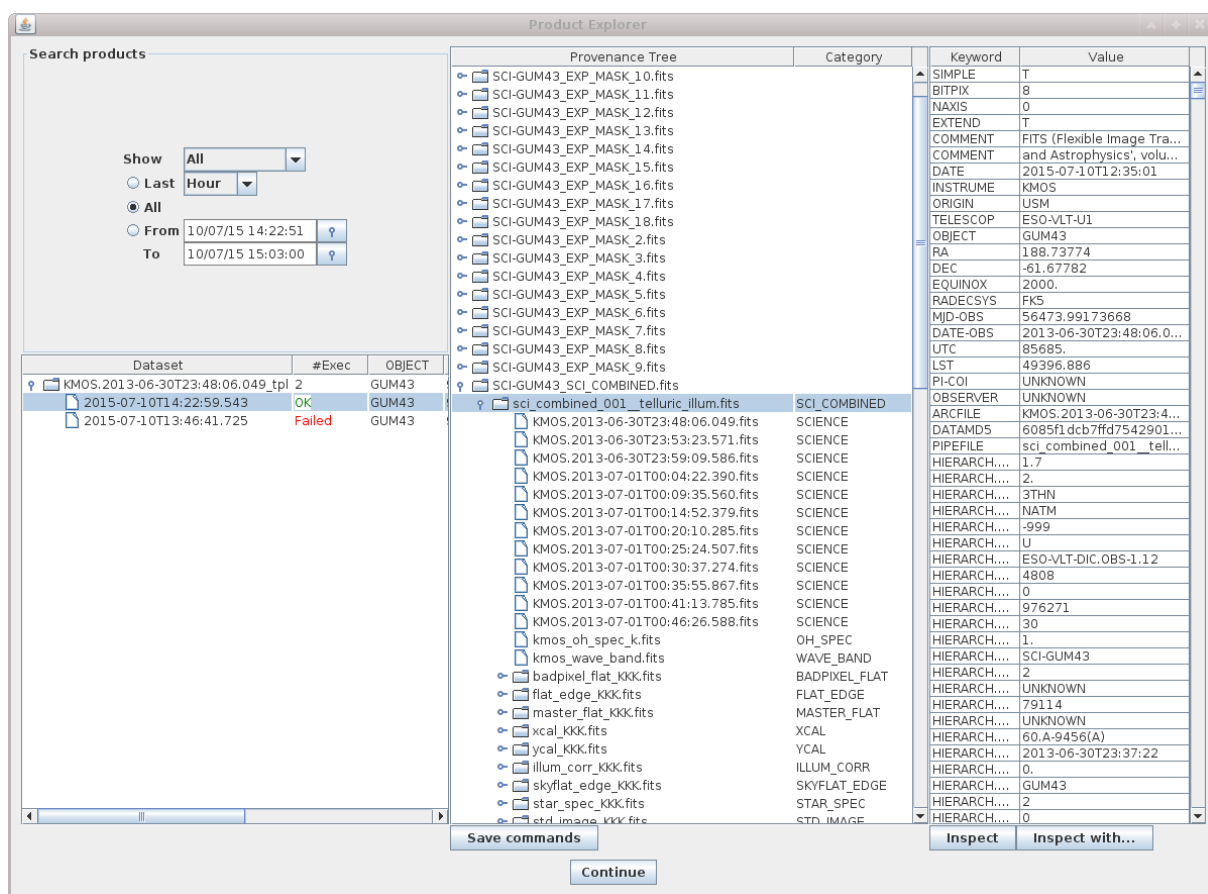

Figure 5.4: The KMOS product explorer.
9. When the reduction of the current `DataSet` finishes, a pop-up window called *Product Explorer* will appear showing the datasets which have been so far reduced together with the list of final products. This actor allows the user to inspect the final data products, as well as to search and inspect the input data used to create any of the products of the workflow. Figure 5.4 shows the *Product Explorer* window.